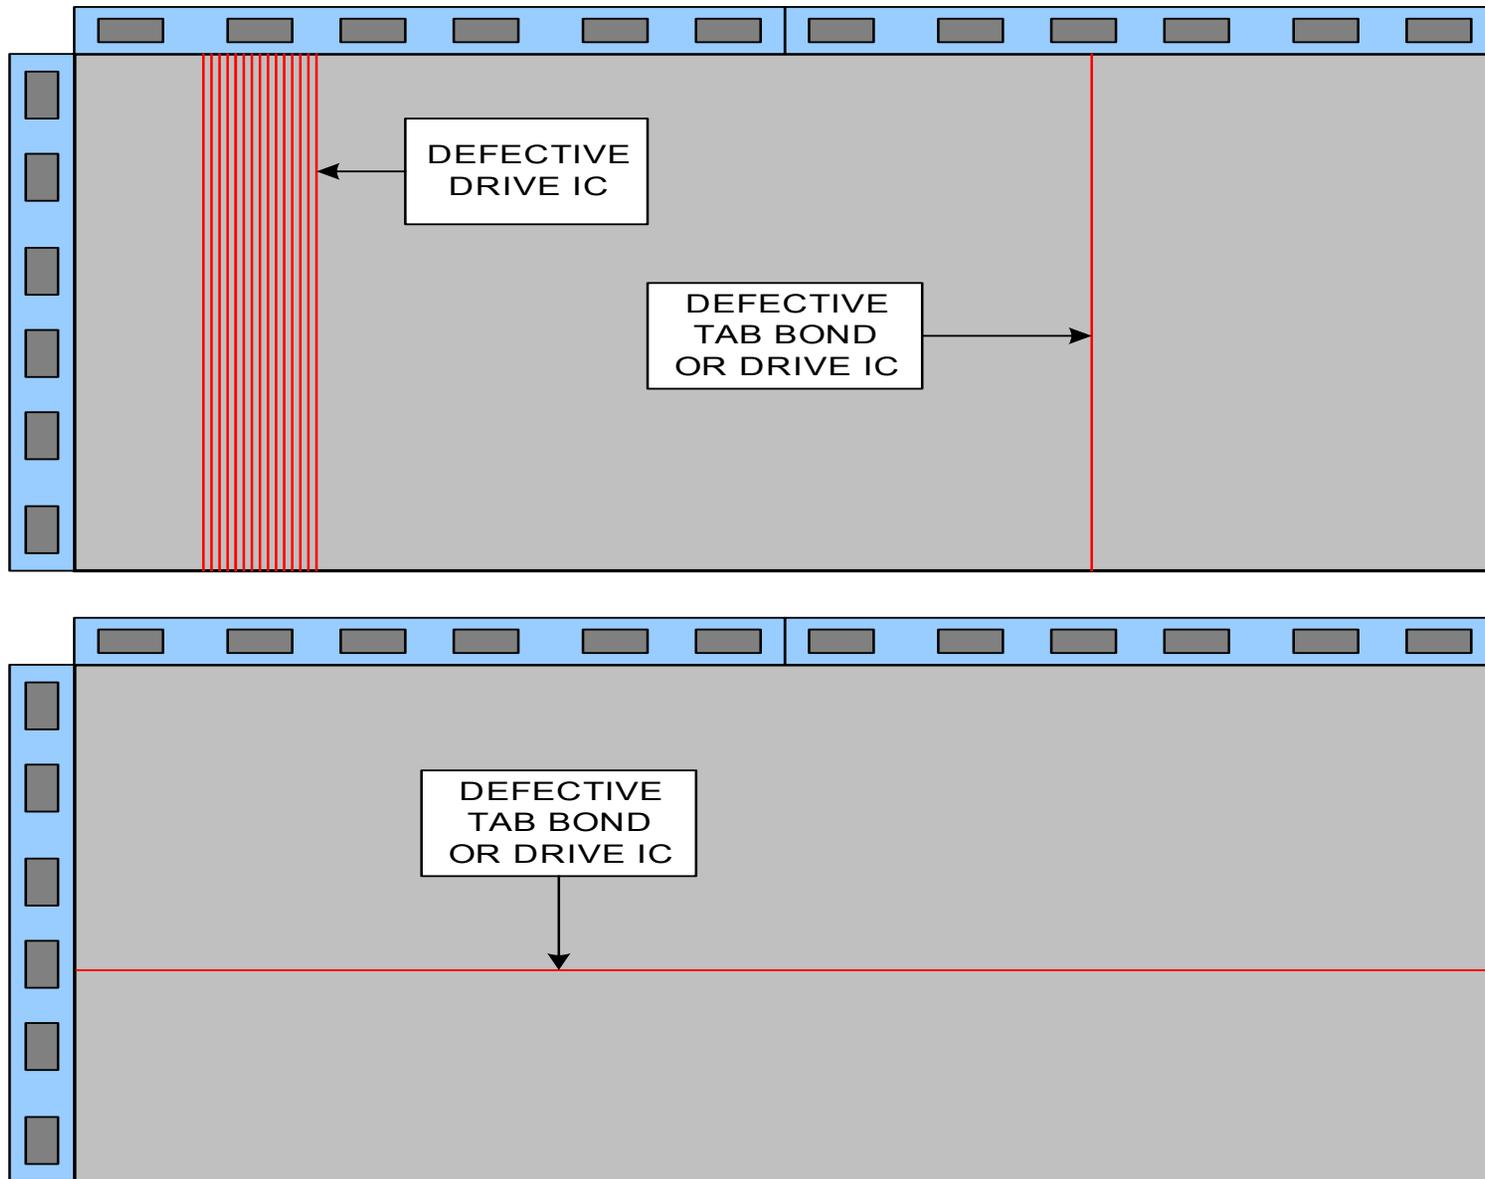

FIGURE 4-6
**LCD Panel Failures:** Some LCD panel failures could possibly be mistaken for TCON issues. Other than damage to the LCD glass, most panel failures are isolated to a particular area of the screen. Since the TCON disperses the pixel data to groups of line and column drive IC's situated on the outer edges of the panel, it is unlikely that more than one of these IC's would fail at the same time. Multiple columns of stuck on or stuck off pixels are, therefore, more likely to be the fault of the TCON circuits. The same applies to a single row of lit or unlit pixels. The TCON simply cannot cut out a single line of information. Figure 4-6 illustrates some typical symptoms of failures that are caused by the LCD panel.